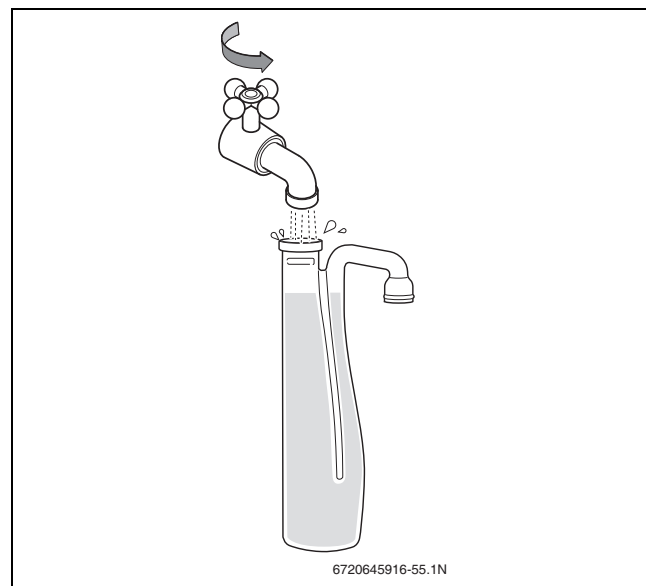

Fig. 59 Filling the condensate trap with water
- Fill the condensate trap with water (→ fig. 59). For disconnecting the condensate trap (→ § 12.3.5, page 43).